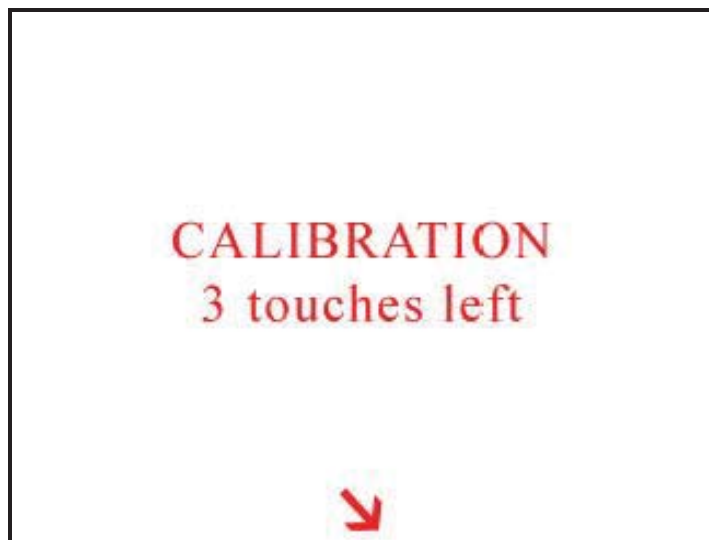

Figure 4-33 Alignment Step 4
- Press anywhere inside the rectangle to when you are ready to complete aligning the screen. See Figure 4-33.